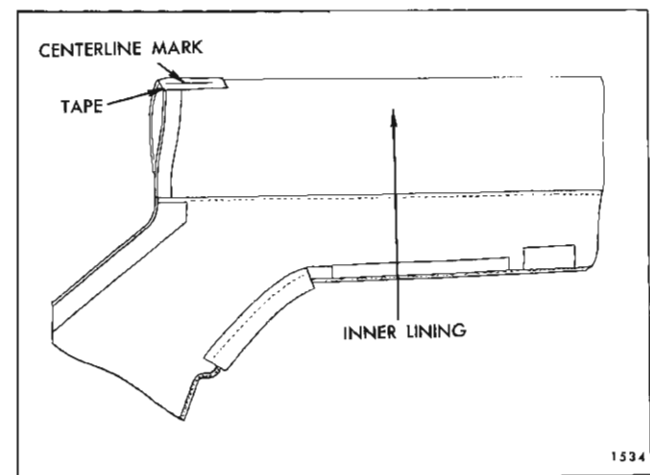

Fig. 1-I-34—Marking Folding Top Material
3. Using a pencil, mark top material (mark should be approximately 1/2" in length) at deck seam 5-1/4" from edge of top material upper valance binding (Fig. 1I33).
4. Fold new top material in half so that inner lining of top material is exposed (Fig. 1I34). Install a 6" piece of tape on inner surface at centerline fold of new top material (Fig. 1I34). Using a pencil, mark the approximate centerline of new top material along entire length of tape.